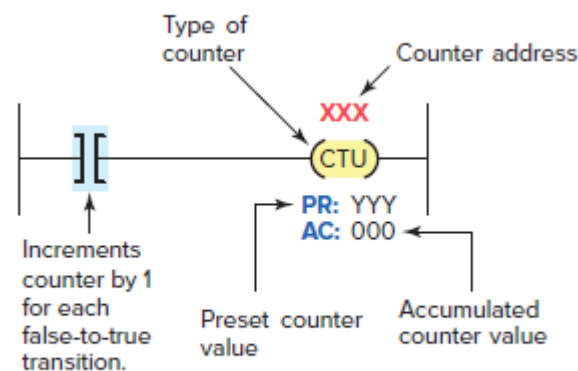

Figure 8-4 Coil-formatted up-counter instruction.
- Figure 8-4 shows a typical coil-formatted up-counter instruction.